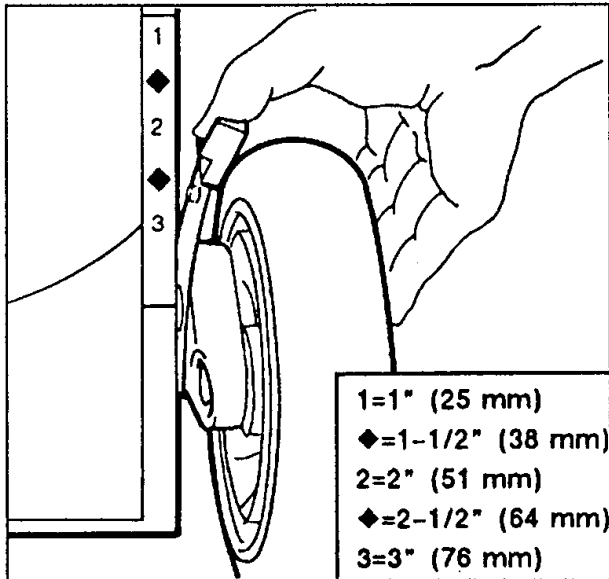

Figure 12
2. For easier adjustment, lift housing up so wheel is off ground. Squeeze adjusting lever toward wheel and move to desired setting (Fig. 12). Assure pin on adjusting lever engages notch in housing. Adjust all wheels to the same setting.